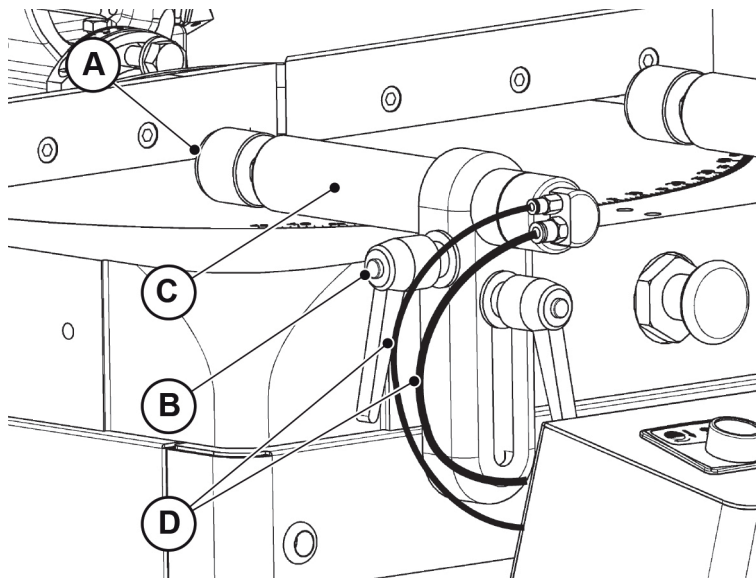

Fig. 09-15
- Unscrew the pad "A" (Fig. 09-15) from the vice (see Chap. 9.2.3).
- Loosen the release handle "B" (Fig. 09-15) and extract the cylinder "C" (Fig. 09-15).
- Disconnect the air hoses "D" (Fig. 09-15).